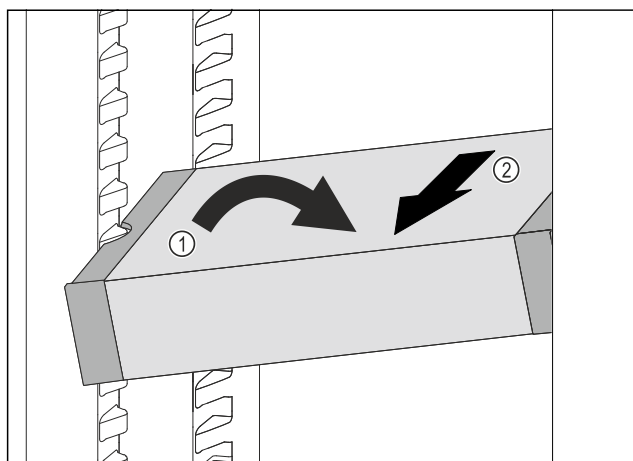

Fig. 105
- Set VarioSafe in refrigerator compartment at an angle. Fig. 105 (1)
- Take VarioSafe out to the front. Fig. 105 (2)